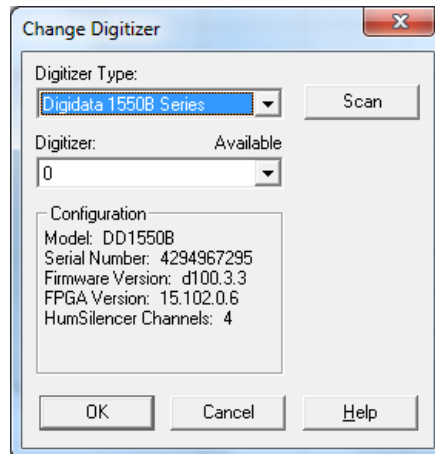

Figure 2-3: Configuration message changes after clicking Scan
4. Click the **Scan** button to detect the digitizer. The first detected digitizer is assigned **0** and listed as **Available**. The **Configuration** information changes from **Not present** to reporting the selected digitizer model number, serial number, firmware version, HumSilencer channel availability (0, 1, or 4 = number available for use), and the **OK** button is enabled (Figure 2-3).